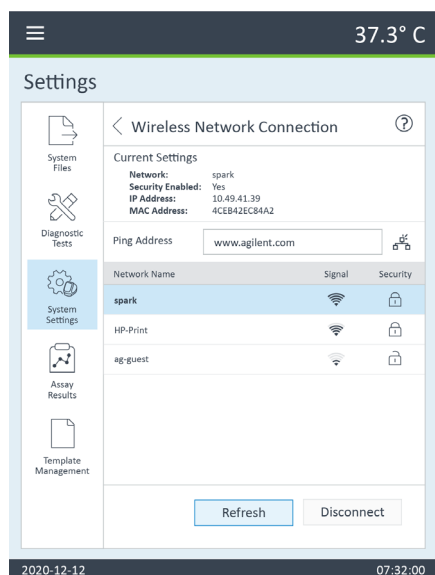

Figure 6. Example wireless network selection table
- 3 Click the right arrow (bottom right) once to access the Wireless Network Connection Settings screen shown in **Figure 6**.
- 10 Click **Ping** in the Wireless Network Connection Settings screen. (**Figure 6**)